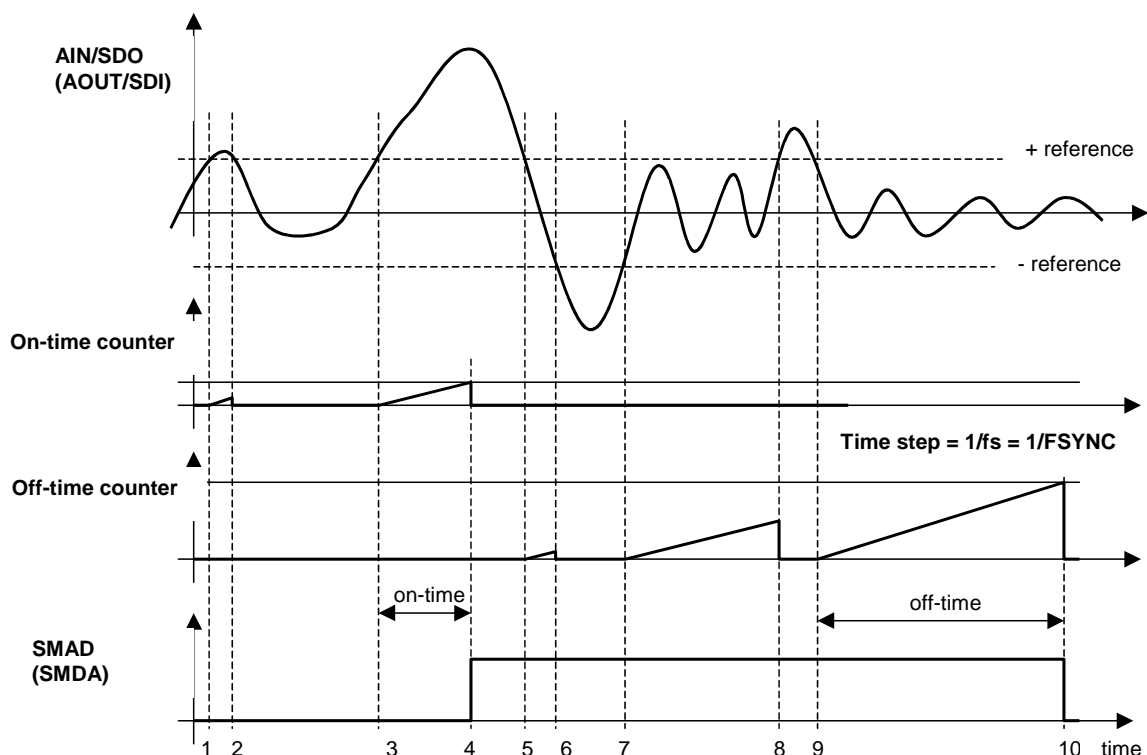

Figure 10: Illustration of the Sandman™ function.
The NRESET signal generated by the CODEC is used to initialize the various blocks in the device and guarantees a correct start-up of the circuit. The start-up sequence that is automatically carried out upon power-up of the device is listed below and illustrated in Figure 10.
1. NRESET is low (0V) when the device is not powered and remains low for a short time when VDD (upper curve in Figure 10) is applied. The low state sustains while VDD, VREG16, VREF are stabilizing.
1. Leave the NRESET pin not connected. In this case the CODEC will startup as described in figure 10.